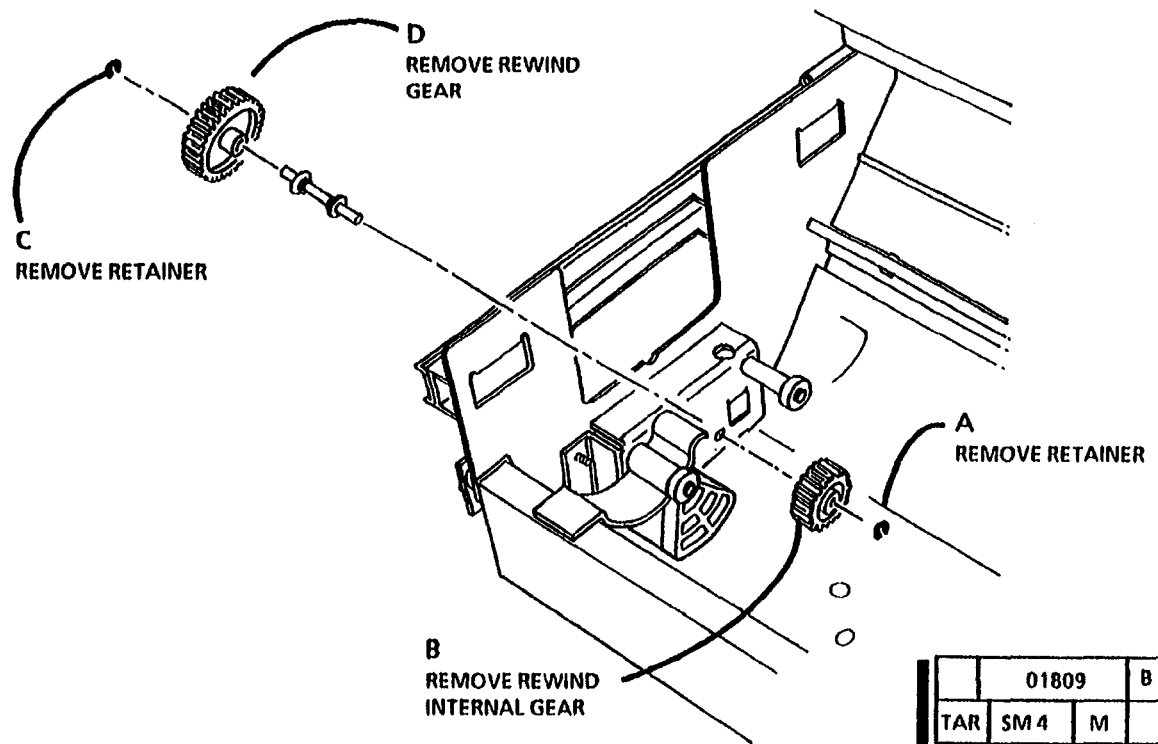

Figure 1. Remove the Rewind Gears
4. (Figure 1): Remove the Gears.